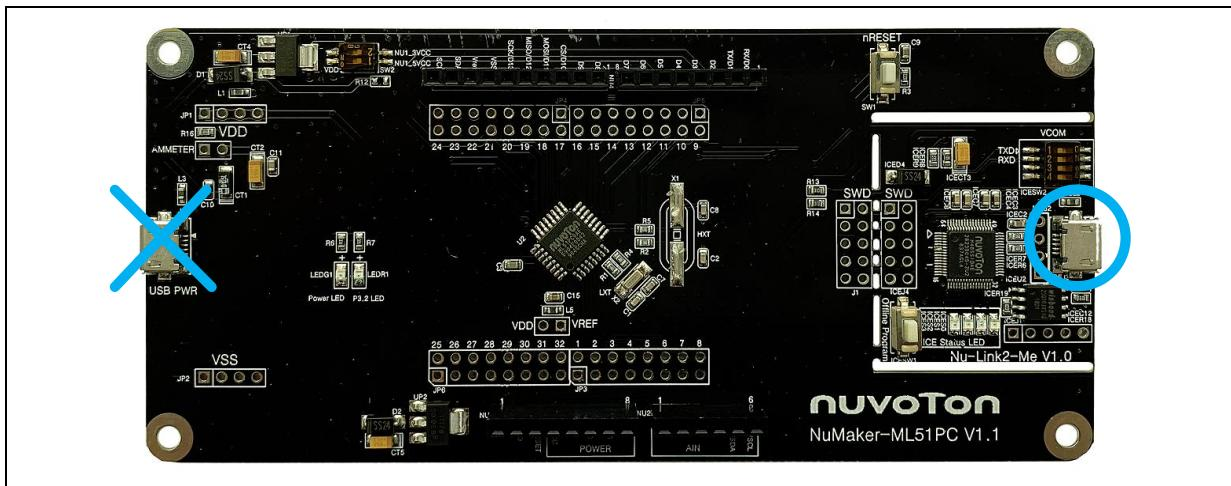

Figure 3.4-2 ICE USB Connector
2. Connect the ICE USB connector shown in Figure 3.4-2 to the PC USB port through USB cable.